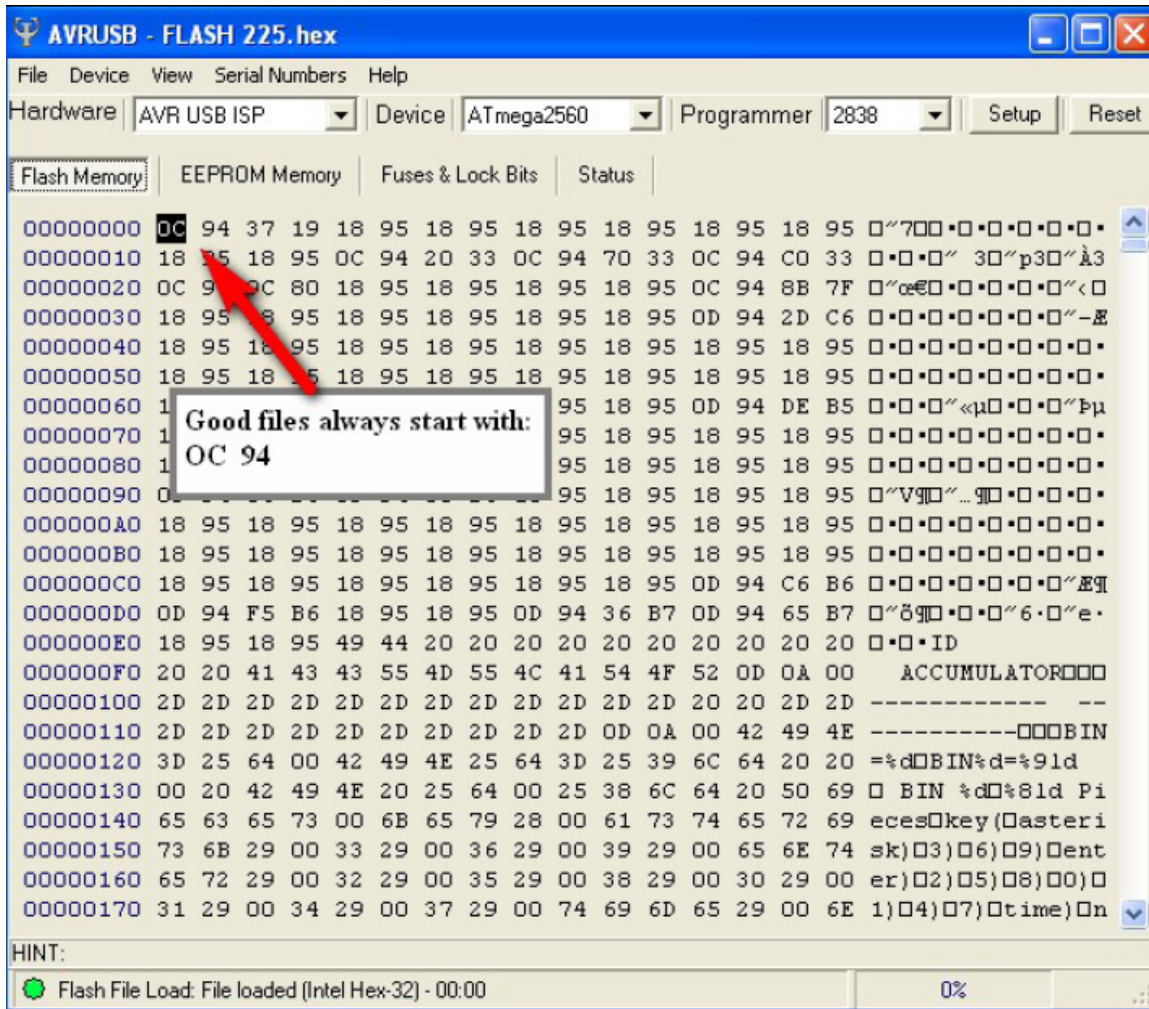

Figure 16
14. Now that the flash file is successfully loaded, a confirmation message will be displayed in the Status Box at the bottom of the AVR screen. **NOTE:** A good hex file will always start with OC 94 for the first two bits. See Figure 16.
**IMPORTANT:** Do NOT load a program that starts with anything other than OC 94 as in Figure 16.